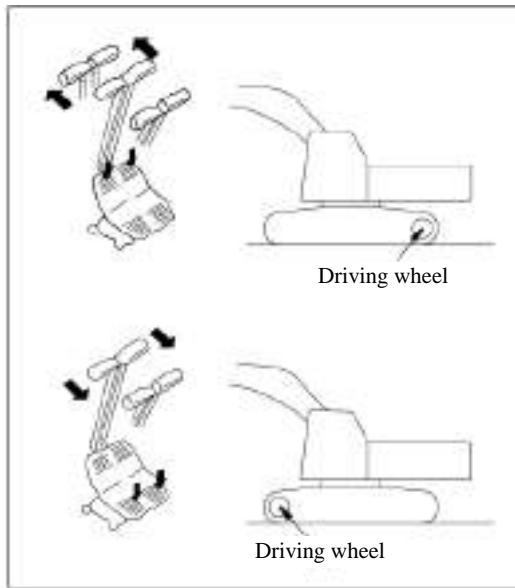

Figure 4-26 Traveling pedal operation for moving machine forward
b) When the sprocket is in the rear of the machine, slowly move the lever forward or depress the front of the pedal to move the machine (Figure 4-26).